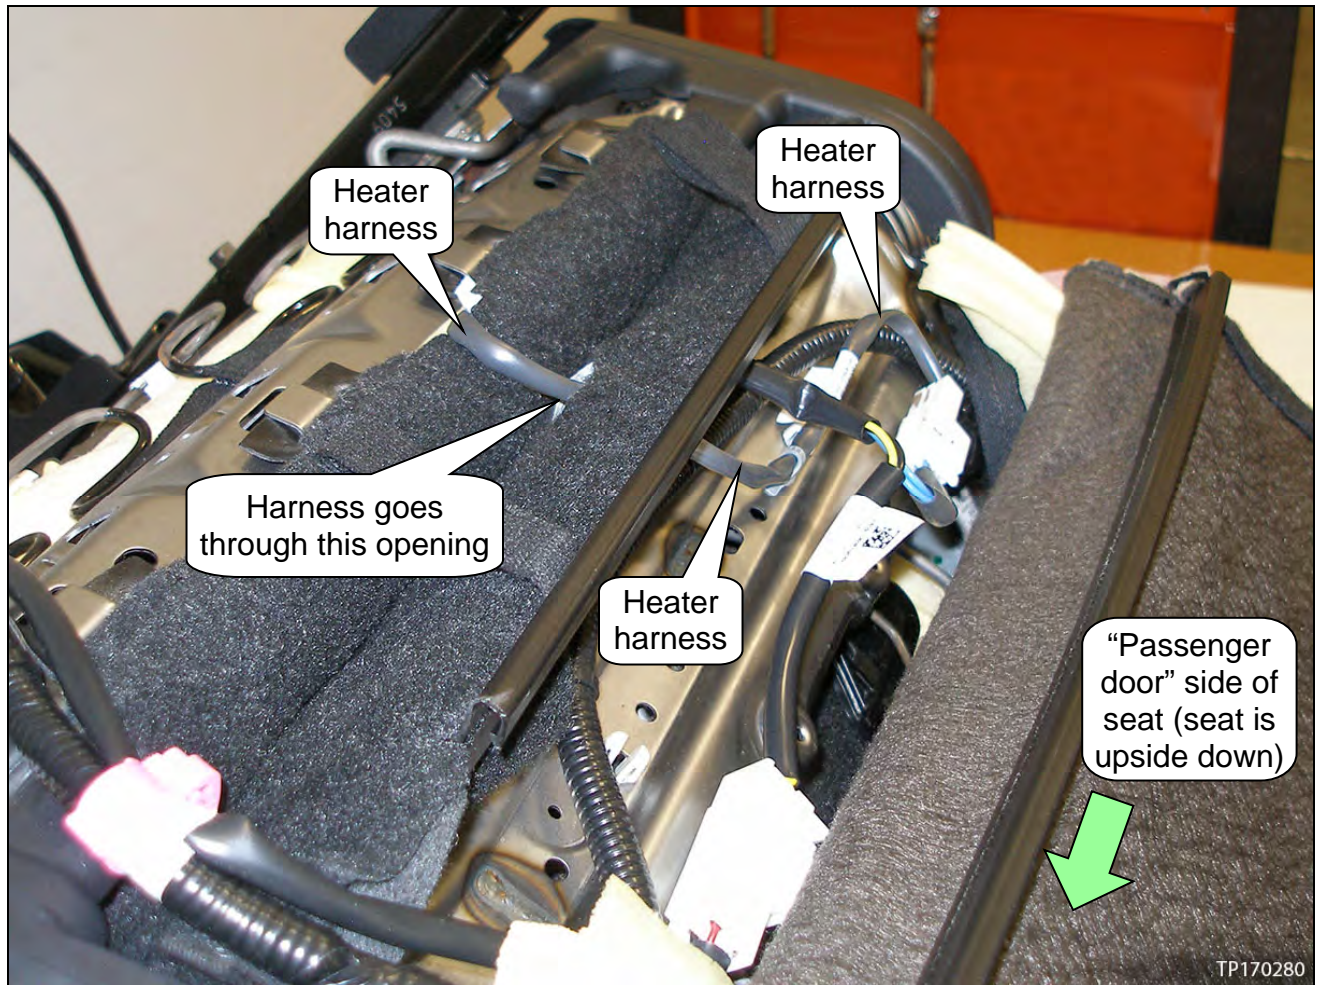

Figure 5
- Route the seat cushion heater's electrical harness as shown in Figure 5 below.